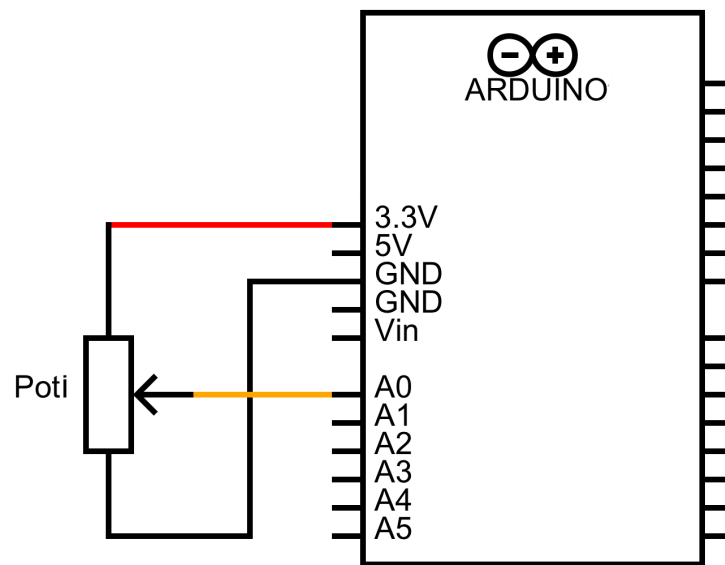

Figure 4.7: Potentiometer and Arduino circuit to set the position of a servo motor.
2. Assemble the circuit in figure 4.7. On your tables you will find a bunch of cables and a rotary potentiometer, which you will need for this part of the lab. You can set the resistance of the potentiometer anywhere between 0 and the maximum resistance by turning its knob. Show your setup to one of the assistants before you connect it to the 3.3 V on the UDOO. Make absolutely sure that you plug it into the 3.3 V and not into the 5 V pin.